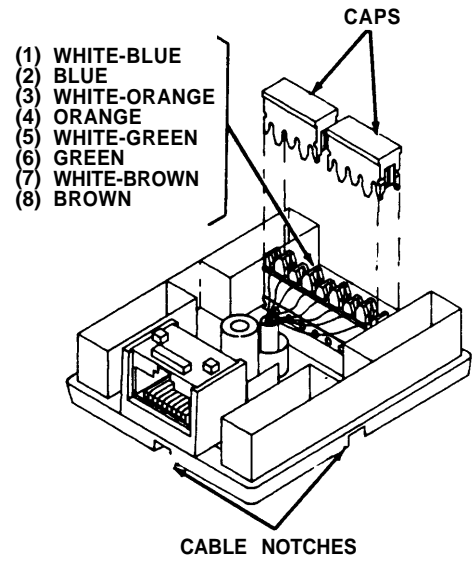

Figure 3
5. Insert the wires in the notches in the color sequence shown in Figure 3.